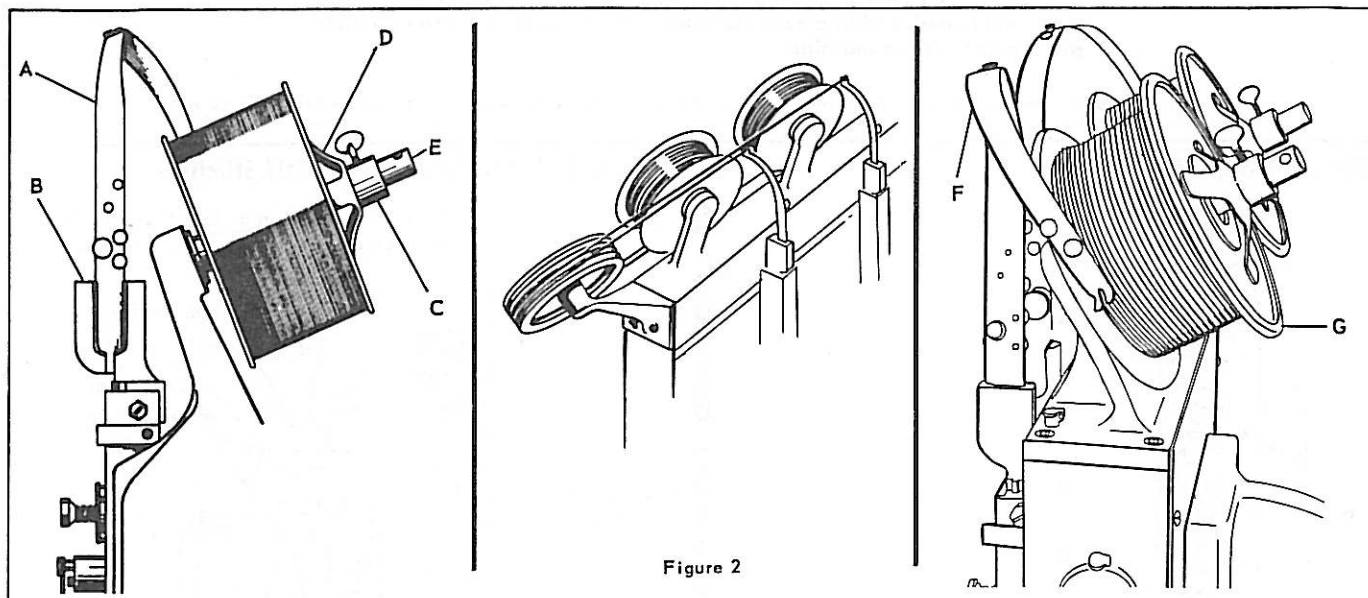

Figure 2
Install Wire Guide Springs and Coil Holder: (Fig. 2)
2. Thread the wire through the slot at the end of the wire guide spring (Index B), through the wire guides (Index C), through the upper wire straightener (Index D), through the lower wire straightener (Index E), and between the tension pawl and tension roll (Index F). On multiple-head stitchers, except the Model 500*, the wire should first be looped around the grooved sheave, using the lowest groove first, before starting to thread it on the far right-hand head in the manner described above (See Figure 2).